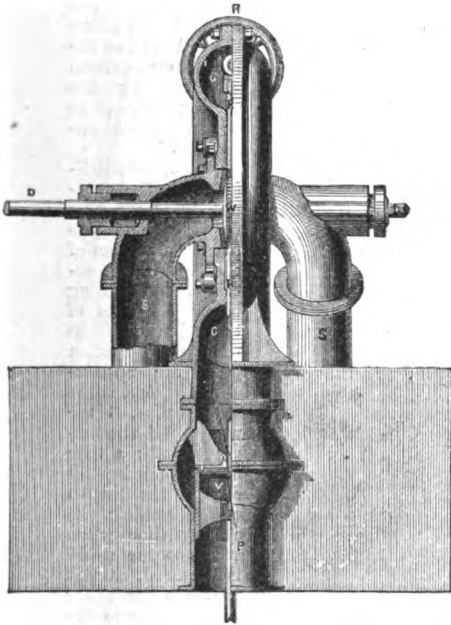

Fig. 1.
Figs. 1 and 2 represent one of Thompson's Vertical Vortex Wheels. One-half of each view is in section, showing the internal arrangement. The water enters through the pipe (P) into the annular chamber (C), from whence it is conducted by four guide blades (G G) into the revolving wheel (W), and is discharged at the centre. The two suction pipes (S S) convey it to the tail-race. The revolving wheel (W) is keyed on the main driving shaft (D); an equilibrium